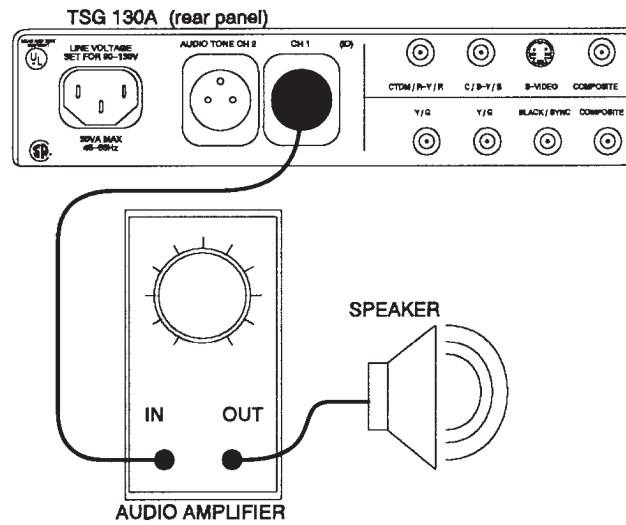

Figure 6-3: Audio ID click frequency adjustment setup
- a. Connect the equipment as shown in Figure 6-3.